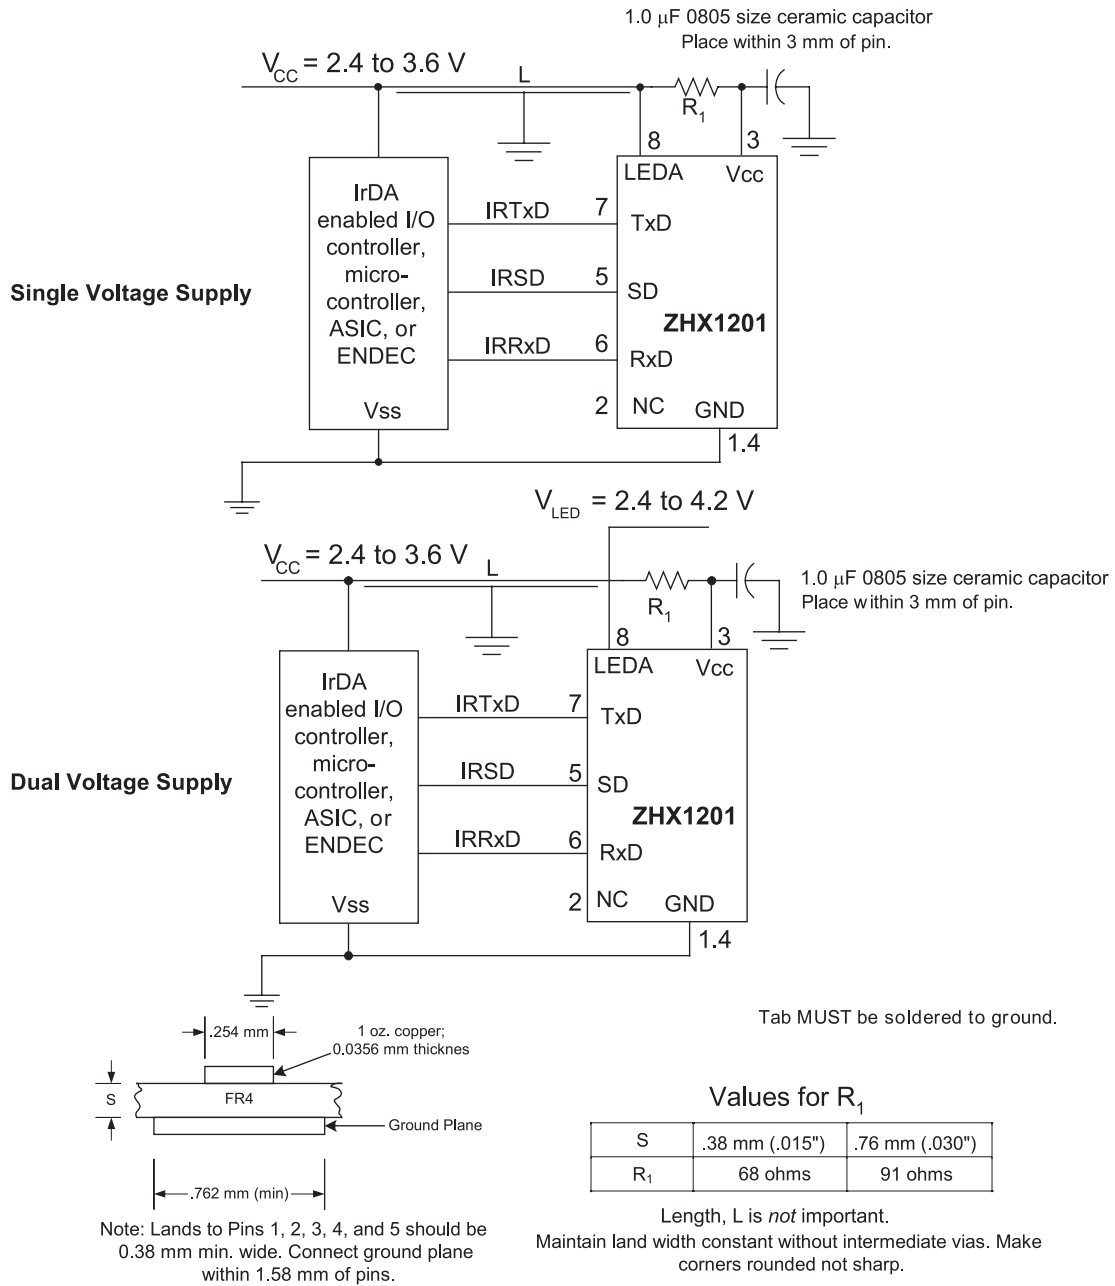

Figure 3. ZHX1201 Application Block Diagrams
- Figure 3. ZHX1201 Application Block Diagrams 4
Figure 3 shows the application block diagrams for the ZHX1201 transceiver.